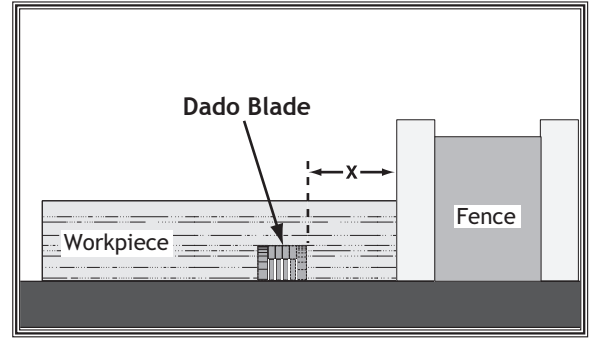

Figure 59. Example of a dado being cut with a dado blade.
Commonly used in furniture joinery, a dado is a straight channel cut in the face of the workpiece. Dadoes are "non-through" cuts that can be made with a dado blade or a standard saw blade. **Figure 59** shows a cutaway view of a dado cut being made with a dado blade.
3. Adjust distance between fence and inside edge of blade, as shown in Figure 59 on Page 43, to dado length of a workpiece.